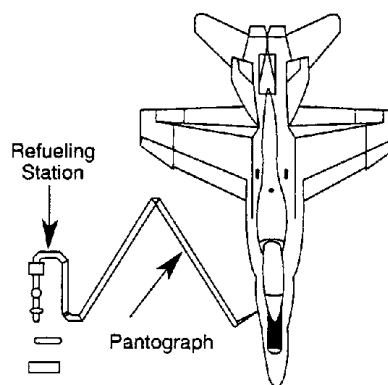

Figure 5-19.—Positioning of aircraft for pantograph refueling.
- Pantograph must be extended to a sufficient distance for the emergency dry breakaway device to work properly. The pantograph should not interfere with movement of aircraft. See figure 5-19.